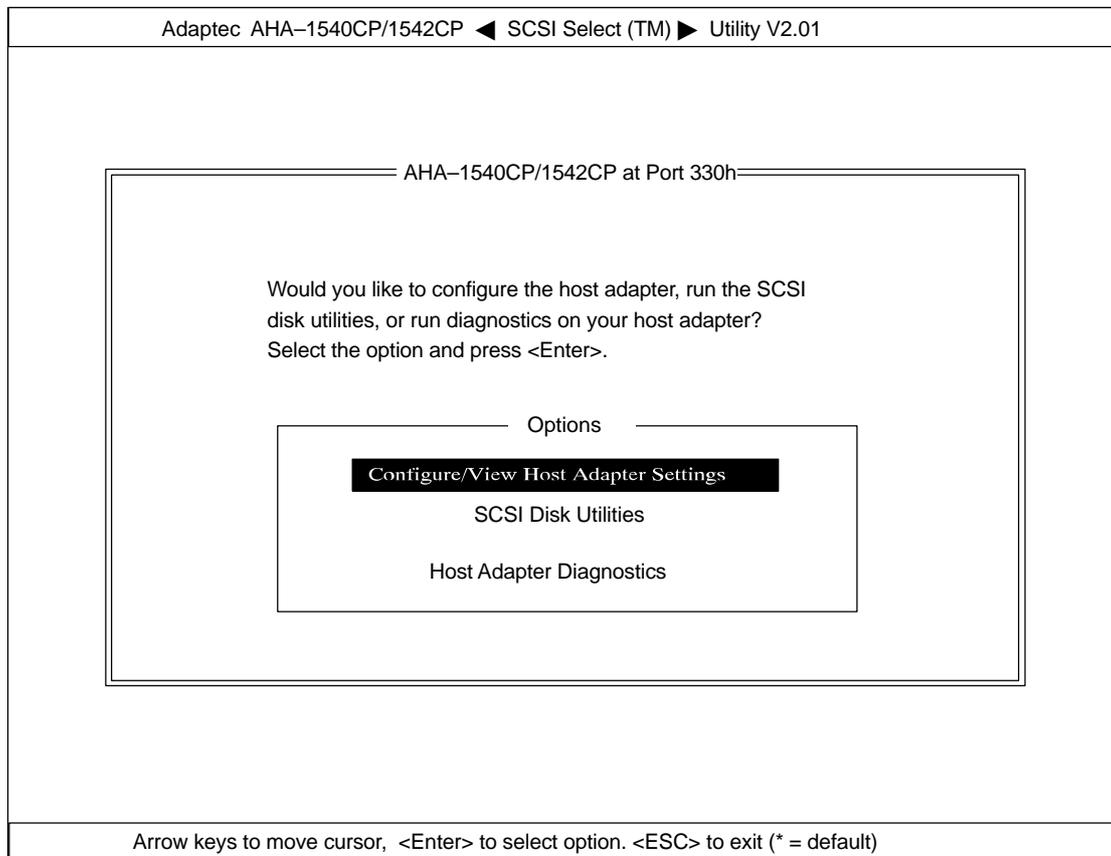

Fig. 4.16 SCSI Select menu 2
- Press <RETURN> to confirm the 'Configure/View Host Adapter Settings' default selection in the subsequently displayed SCSI *Select* menu 2 (see Fig. 4.16).